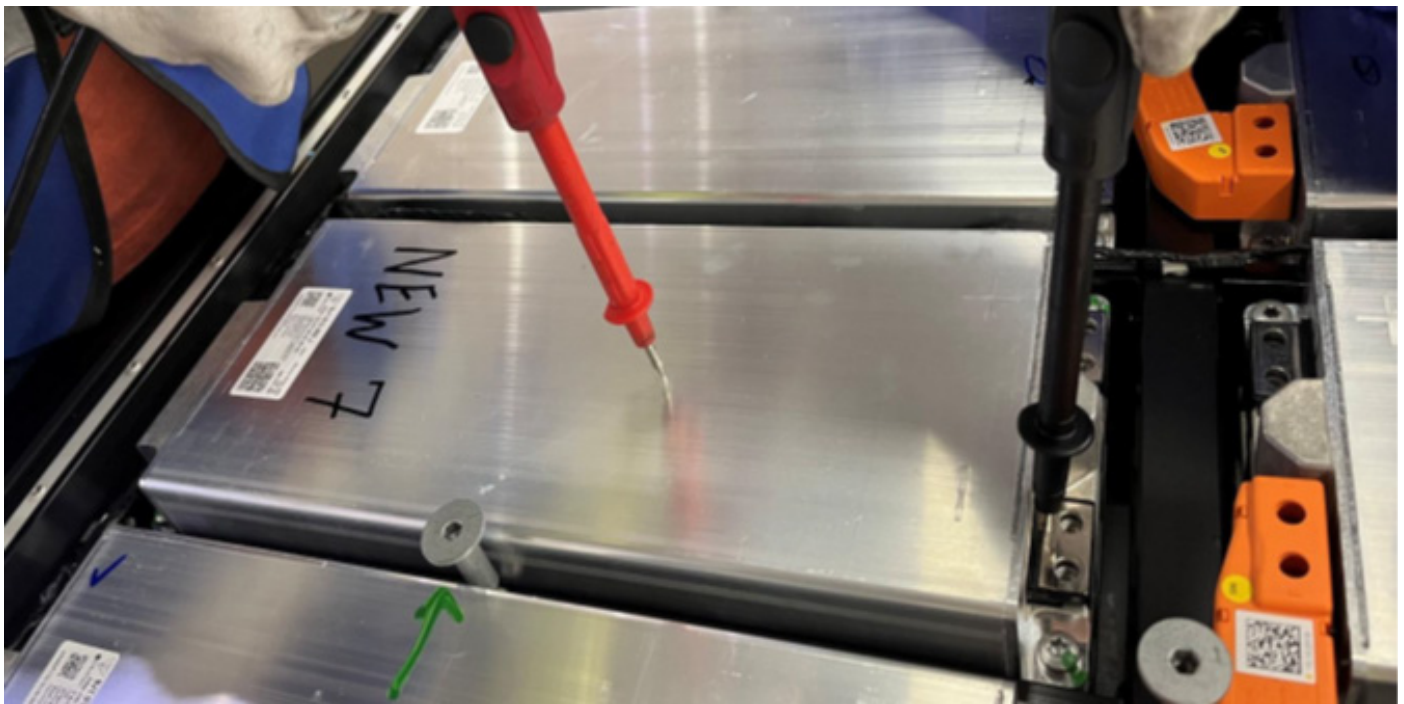

Figure 4 - IR Test at Negative Terminal
- When IR testing a module on the negative terminal: Contact the negative terminal with the black test probe as shown in *Figure 4*.
Module IR Testing Procedure: Negative Terminal (Figure 4)